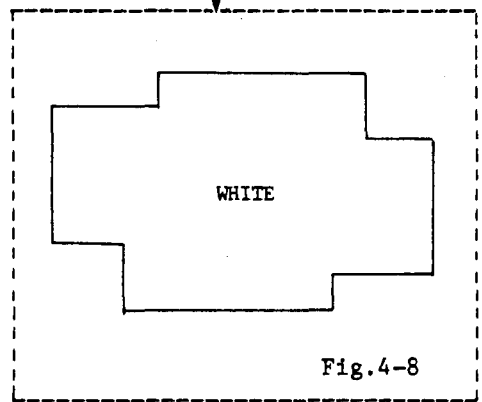

Fig.4-8
i) Depress the space bar to pad every window with numbers. Then the background color is replaced by white. Make sure that all are in white as shown in Fig.4-8.
i) Depress the space bar and make sure that the white portion of Fig.4-8 is replaced by numbers.